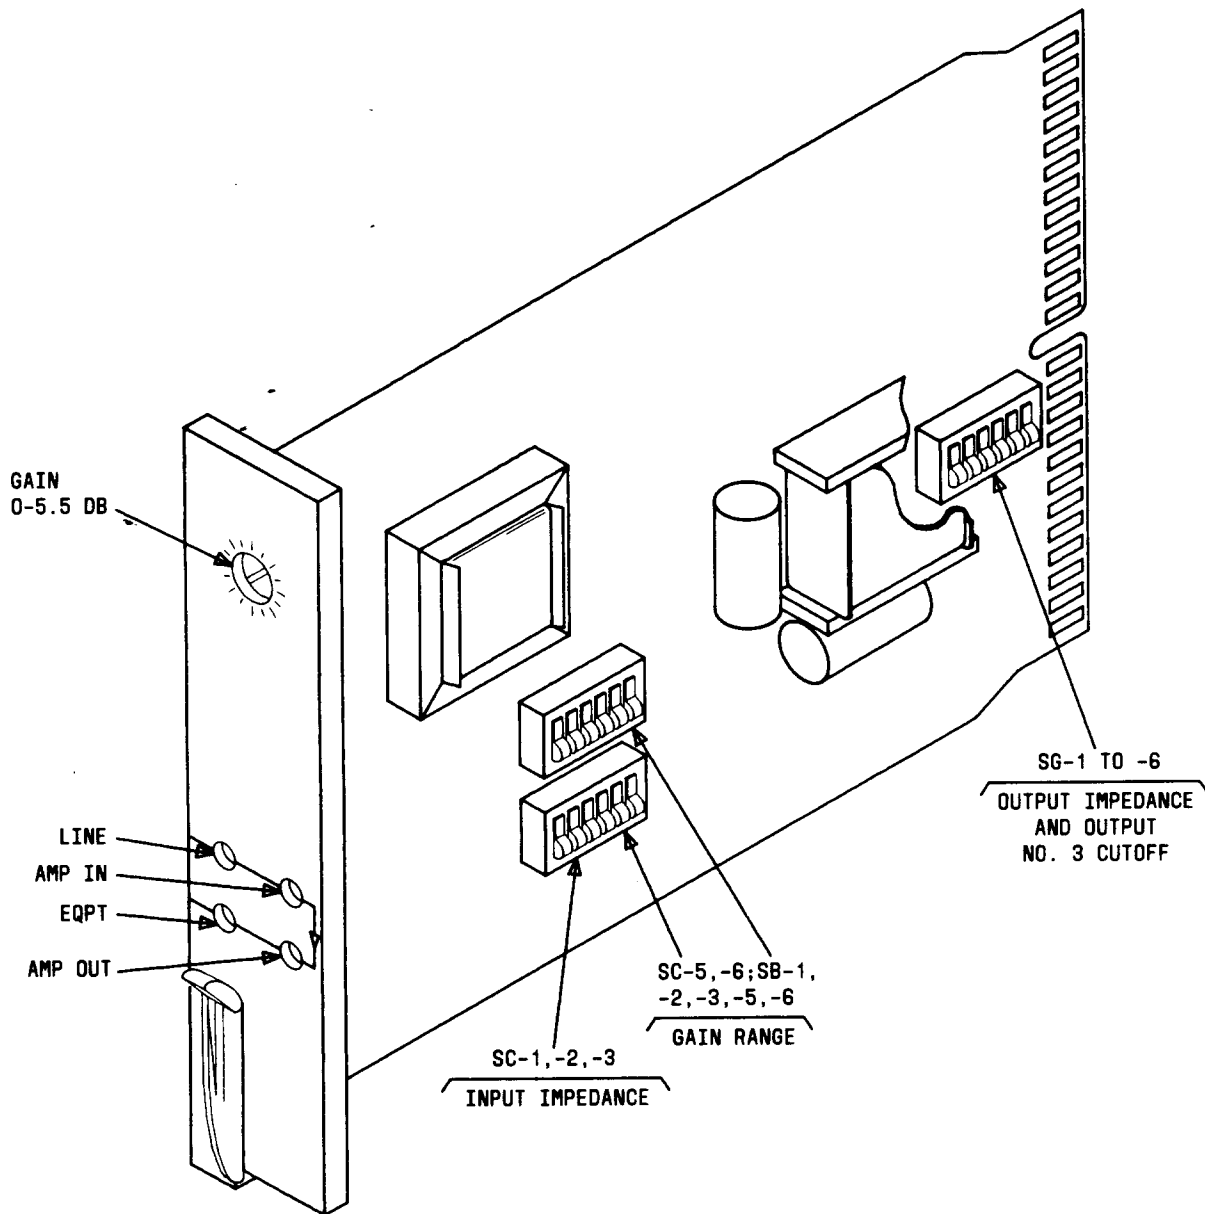

Fig. 1—QVF52C, Physical Layout
1.01 The QVF52C and QVF52H program amplifiers (see Fig. 1 and 2) are used for amplifying and distributing 5-, 8-, or 15-kHz audio program signals. The gain of the QVF52C unit is adjustable from 0 to 40.5 dB in 5-dB and 0.5-dB steps. The gain of the QVF52H unit is adjustable from 0 to 30 dB in 10-dB steps, with an additional 11-dB range (coarse) and 1-dB range (fine) adjustment from potentiometers mounted on the faceplate (42 dB maximum).
or H Program Amplifiers are initially installed. The following information is provided as a checklist and should be used in accordance with circuit information for the program circuit being provided. No special apparatus is required. See Fig. 1 and 2 and Tables A through D for circuit layout information.
2	Gain Range (QVF52C only) (See Fig. 1). Set switches SB-1, -2, -3, -5, -6; SC-5, -6, and the faceplate gain control (0-5.5 dB) for the specified gain requirement (see Table B).